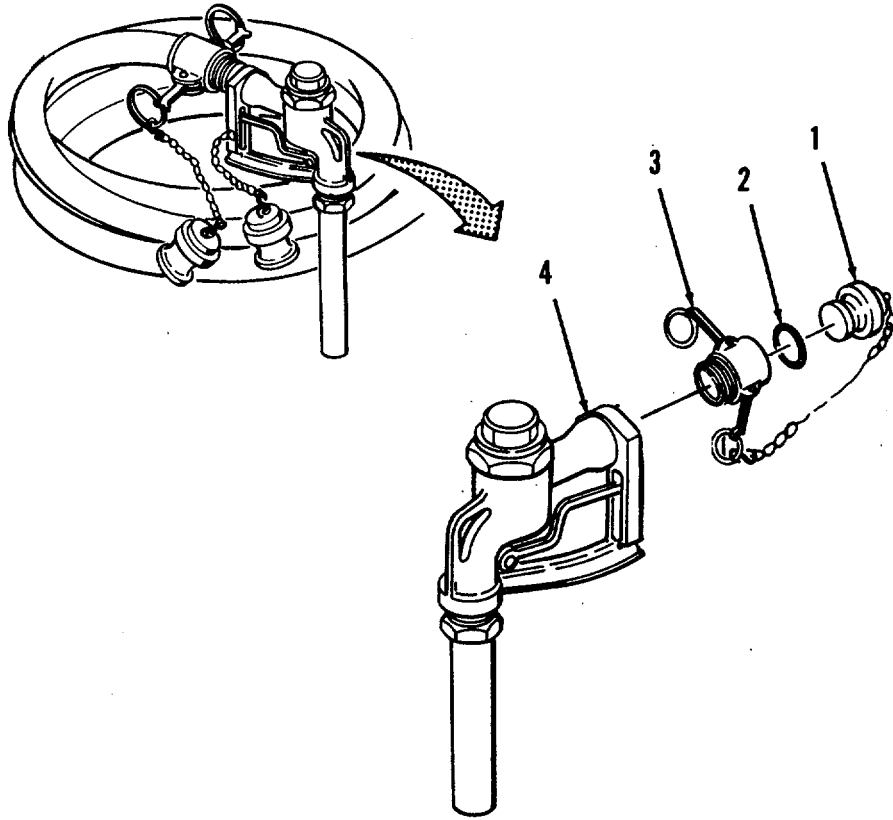

Figure 4-2. Nozzle Assembly Repair.
**a. Disassembly.** (Refer to Figure 4-2).
- (1) Remove quick disconnect plug (1) and gasket (2) from coupling half (3).
- (2) Remove coupling half (3) from nozzle (4).